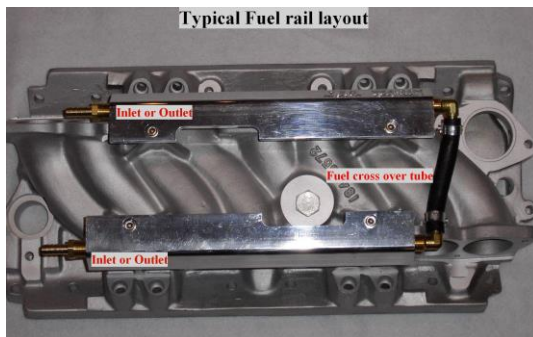

Figure 9
5. Install your fuel line crossover hose to the fuel rail at this time refer to Figure 9.
11. Attach the other ends of the fuel lines (supply and return) to the fuel rails as indicated in Figure 9